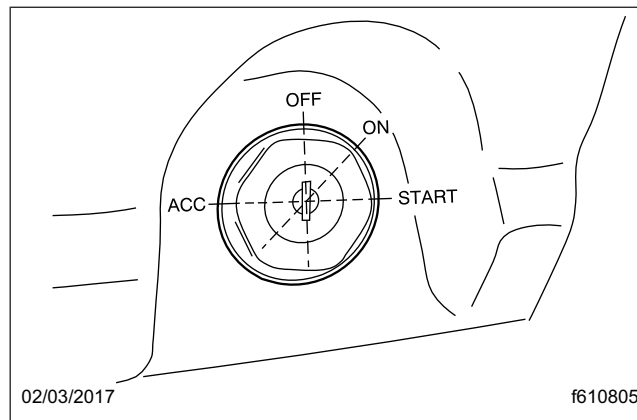

Fig. 9.1, Ignition Switch
4. Turn the ignition switch to the ON position and allow the self-check to complete. See Fig. 9.1.